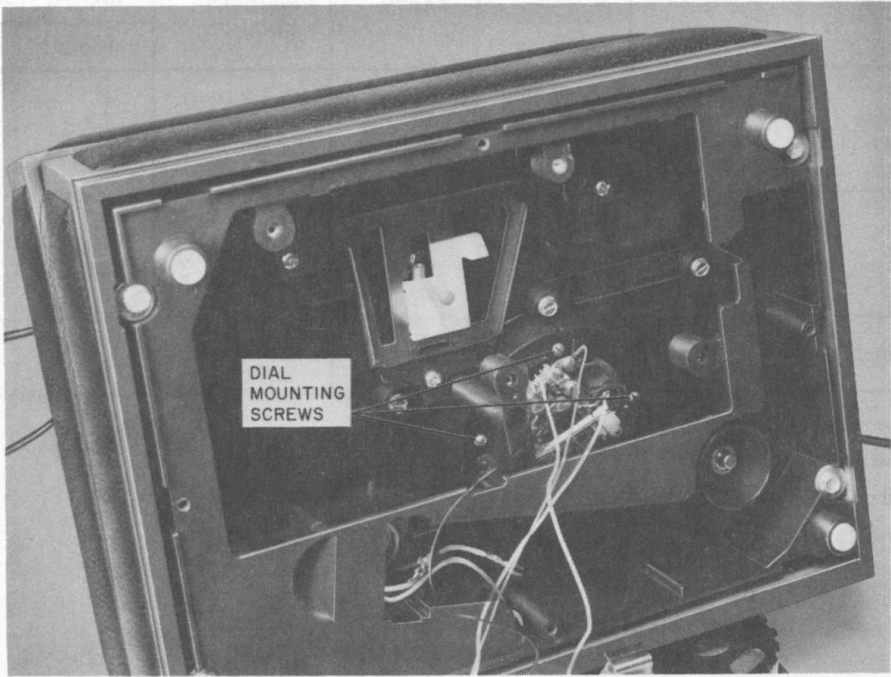

Fig. 6—Removing Rotary Dial
- (5) Rotary dial equipped set only—remove three dial mounting screws and remove the rotary dial (Fig. 6).